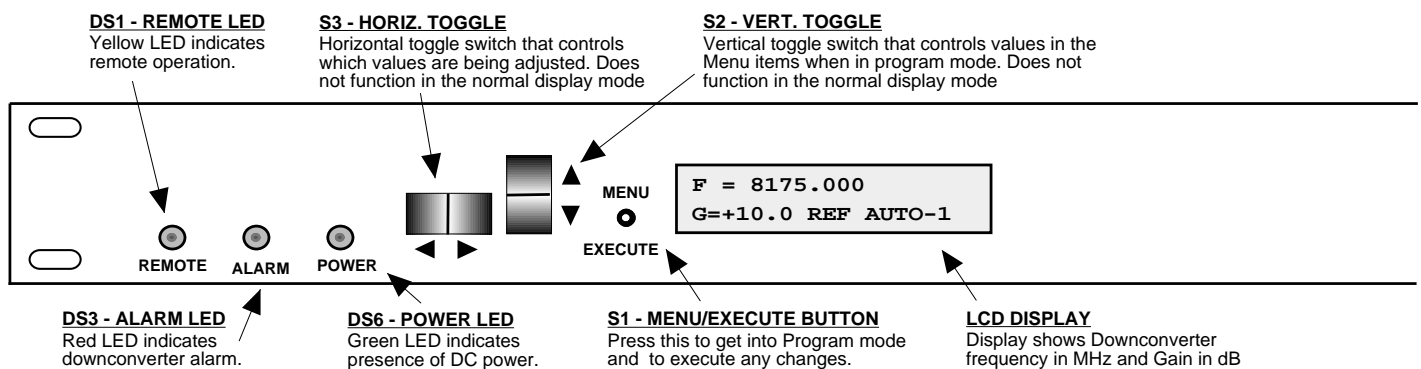

FIGURE 2.3 3116-7984-720-400# Front Panel Controls and Indicators
Figure 2.3 shows the front panel controls and indicators.
6. Be sure DS6 (green, DC Power) is on and DS3 (red, Alarm) is off (Figure 2.3).
Alarm indications appear on the LEDs (see figure 2.3).